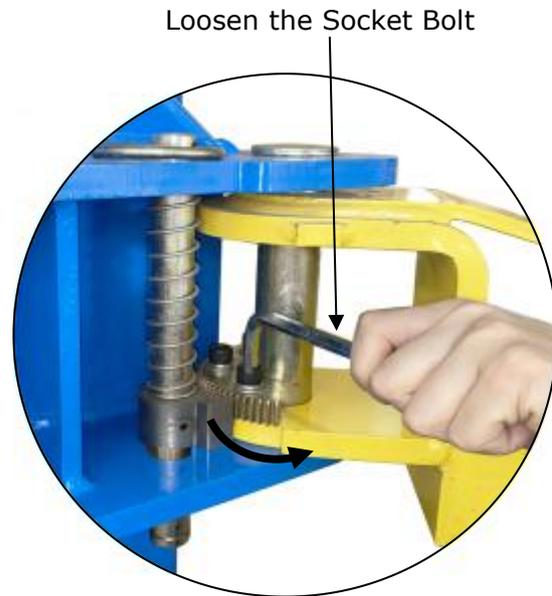

Fig. 36
2. Lowering the carriages down to the lowest position, then use the 8# socket head wrench to loosen the socket bolt (See Fig.36).